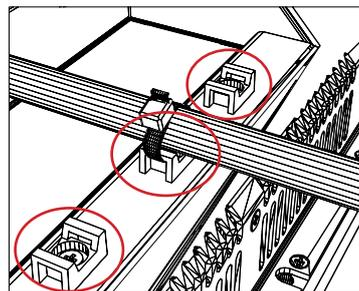
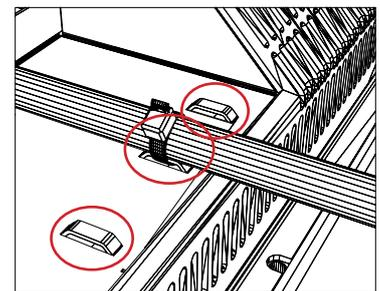

FIG 1
FIG 2
- 2: Unmount the fasteners. (FIG 1)
- 3: Mount power cables to screw terminal (FIG 2). Note polarity!
- 4: Secure the cable tightly with fasteners (FIG 3, FIG 1)
For certain units a base mounted clamp is available (FIG 1). For other models a hinge in the chassis is available (FIG 2).